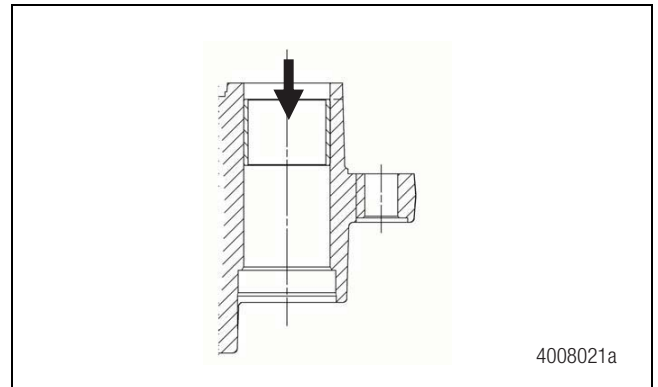

Figure 5.32
2. Insert the bushing into the housing bore from the slide pin boot retainer side of the bore. Figure 5.32.